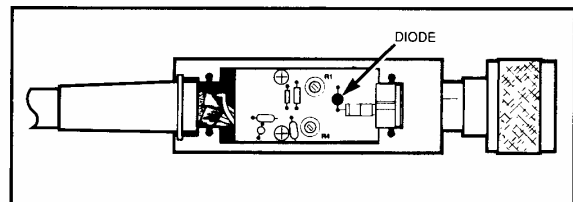

Figure 8-3. Detector PCB
- Unplug the defective diode (Figure 8-3) from the circuit board and remove the diode from the detector.